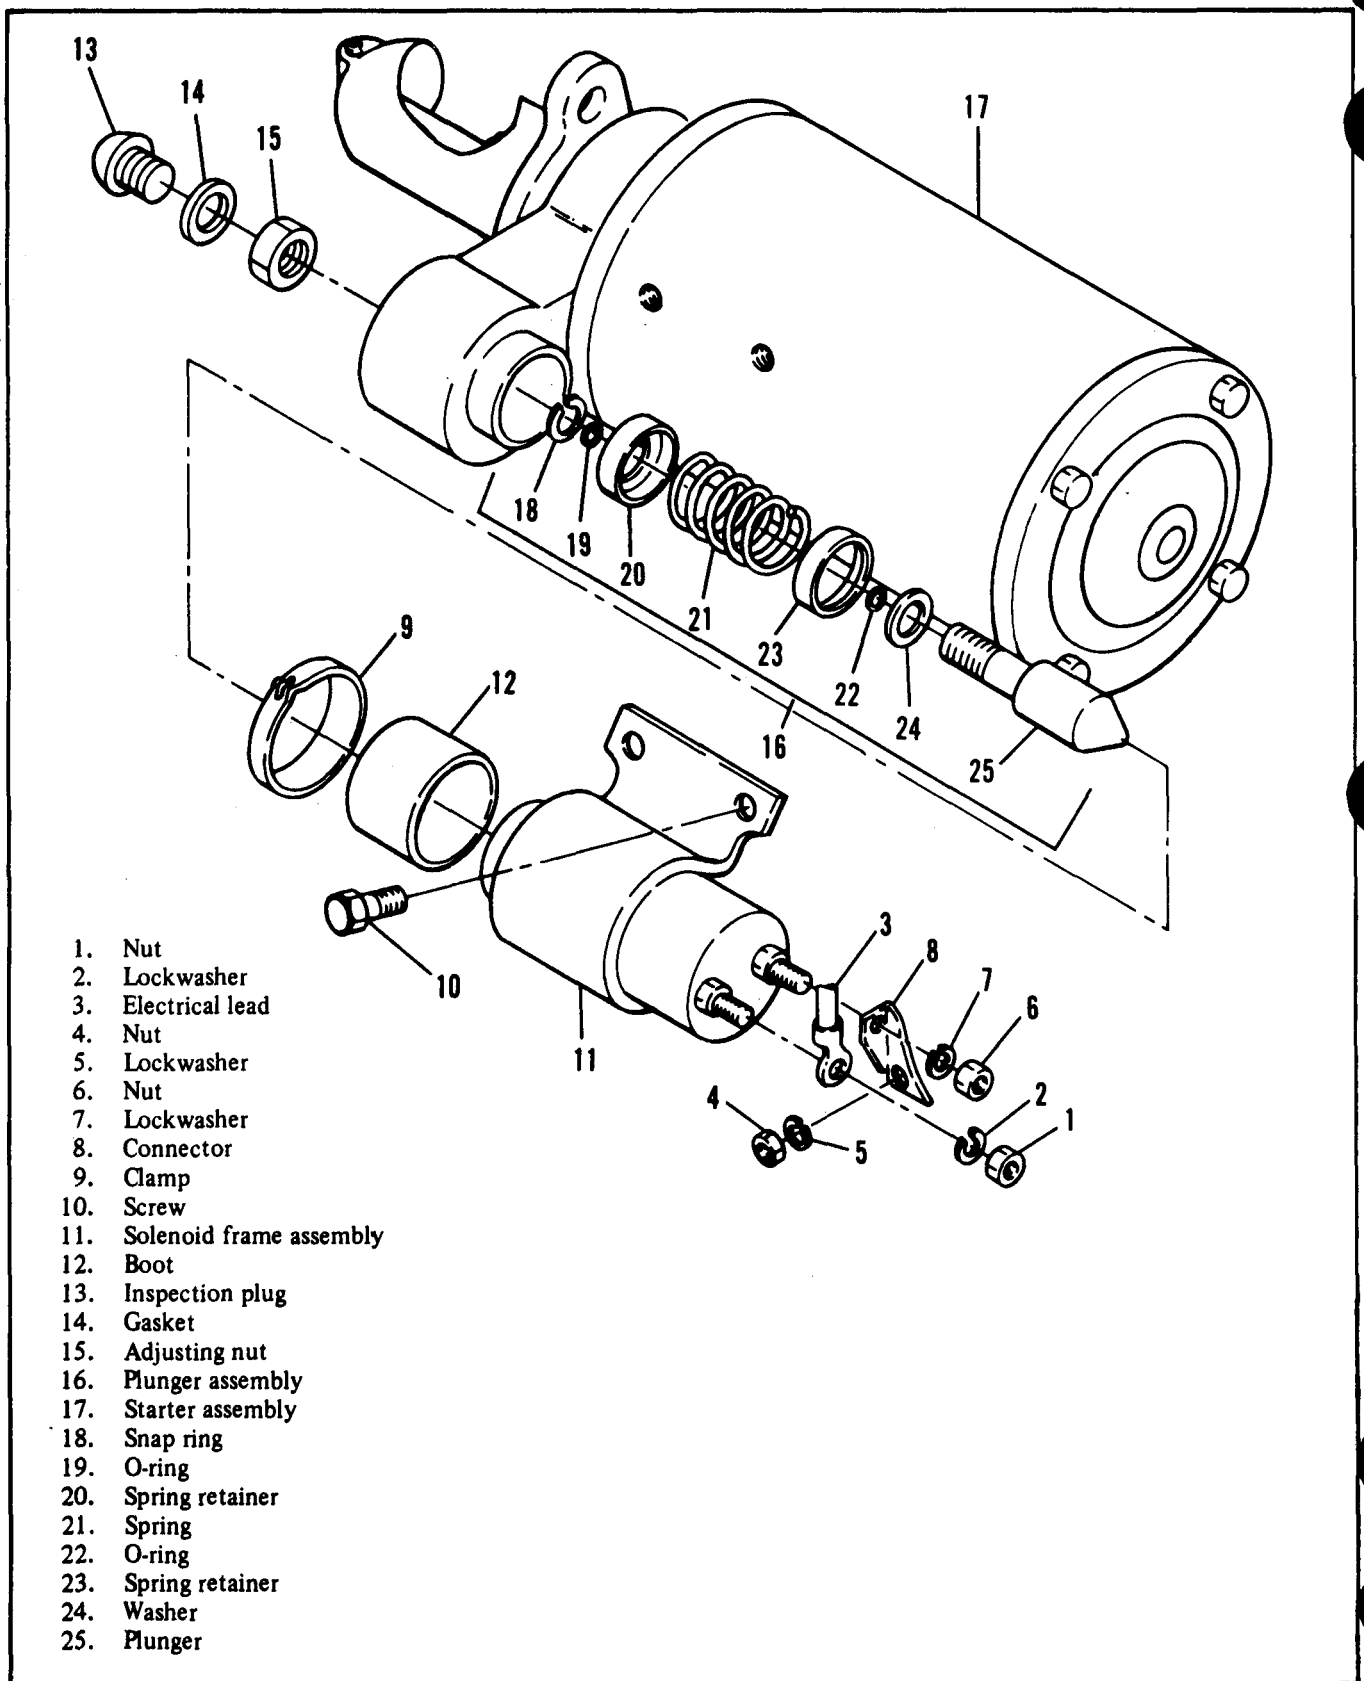

Figure 3-12A. Starter Solenoid Replacement (Effective with serial no. RZ70001)
- (b) Carefully remove commutator end frame (3) and o-ring (4).
- (a) Remove nut (1, figure 3-12A) and lockwasher (2) to disconnect electrical lead (3).
- (d) Remove brushholder pin (12) to remove brushholder spring (13) and brushholders (14 and 15) from brush support.
- (b) Remove nut (4), lockwasher (5), nut (6), lockwasher (7) and connector (8).
- (c) Loosen clamp (9) and remove screws (10) to remove solenoid assembly (11). Remove boot (12).
- (d) Remove inspection plug (13) and gasket (14).
Maintain proper polarity when connecting multimeter. Electrical lead (3, Figure 3-12A) is positive lead.